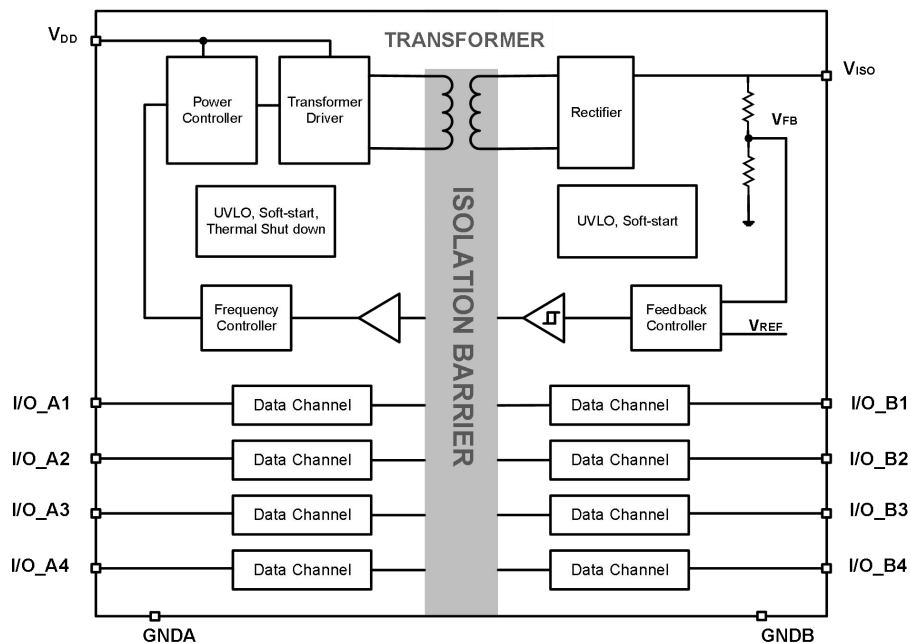

Figure 10- 1 Functional Block Diagram of CA-IS36xx Devices
The CA-IS36xx family of devices has a high-efficiency, low-emissions isolated dc-dc converter, with high-speed isolated data channels. The functional block diagram of CA-IS36xx devices are shown in Figure 10- 1.
The high-speed isolated data channels use a simple ON-OFF keying (OOK) modulation scheme to transmit signal across the SiO_2 isolation capacitors that provide a robust insulation between two different voltage domain and act as a high frequency signal path between the input and the output. The transmitter (TX) modulates the input signal onto the carrier frequency, that is, TX delivers high frequency signal across the isolation barrier in one input state and delivers no signal across the barrier in the other input state. Then the receiver rebuilds the input signal according to the detected in-band energy. The capacitor-based signal path is fully differential to maximize noise immunity, which is also known as common-mode transient immunity. The capacitively-coupled architecture provides much higher electromagnetic immunity compared to the inductively coupled one. A simplified functional block diagram and conceptual operation waveforms of a single channel is shown in Figure 10- 2 and Figure 10- 3.